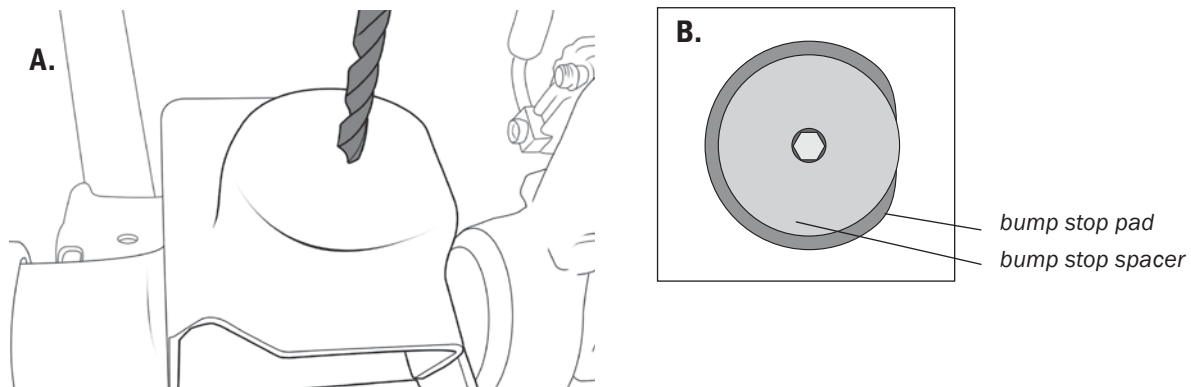

Figure 24
- A. Drill a 3/8 inch hole in the center of the axle bump stop pad (Fig. 24-A).
- B. Place bump stop spacer inside springs (Fig. 24-B).